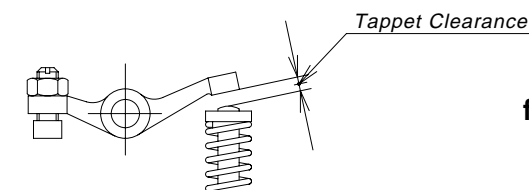

fig.3
- 2 The proper clearance should be set at not more than 0.1mm maximum. The adjustment is achieved by loosening the lock nut ( fig.3 ) and turning the adjustment screw. The engine must be at top dead center on the compression stroke before any adjustments are made. This engine runs best with the valves set at a tight setting. If the valves are set too loose ,power will be affected.